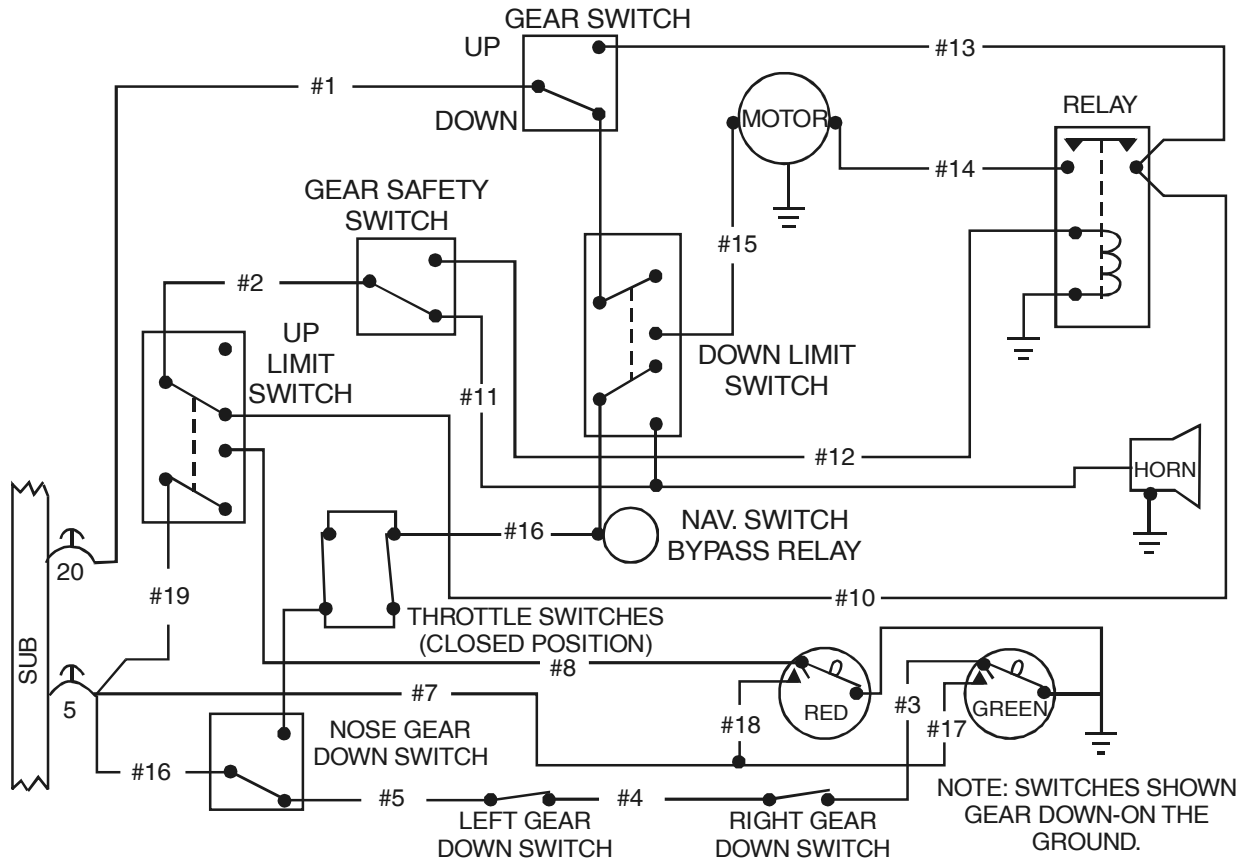

Figure 9.30.
85. (Refer to figure 9.30) Upon completion of the landing gear extension cycle, the green light illuminated and the red light remained lit. What is the probable cause?